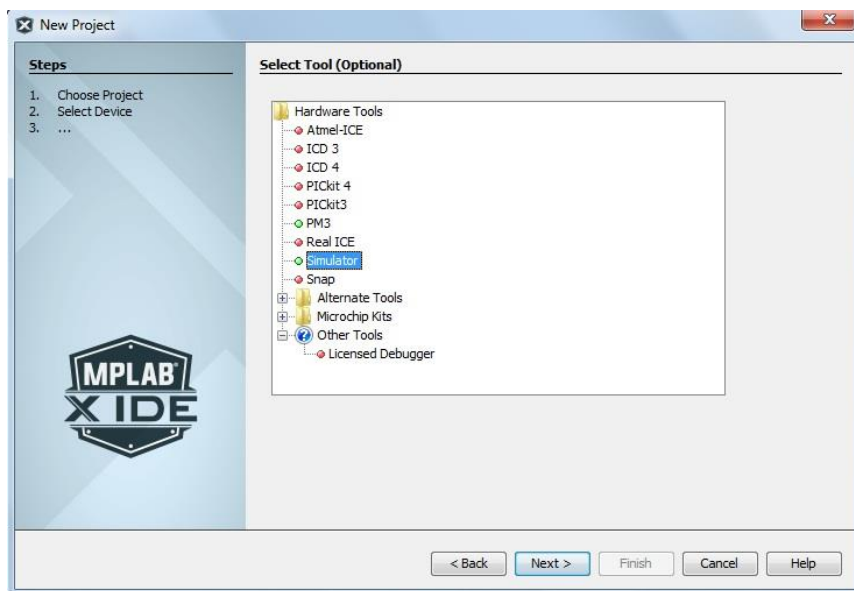

Fig 4.10 New Project – Select Tool (Optional) Window
5. In the “Select Device” window in the Family section select “Advanced 8-bit MCUs (PIC18)” option. Then in the Device section select PIC18F452 or PIC18F458 or PIC18C452/458 and then click Next. A Select Tool option window appears as shown in Fig 4.10.